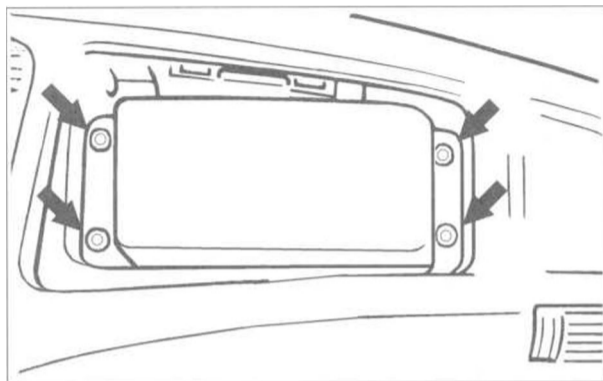

Fig. 6. Passenger's side airbag mounting bolts (arrows)
3. Remove passenger's side airbag mounting bolts. See Fig. 6.